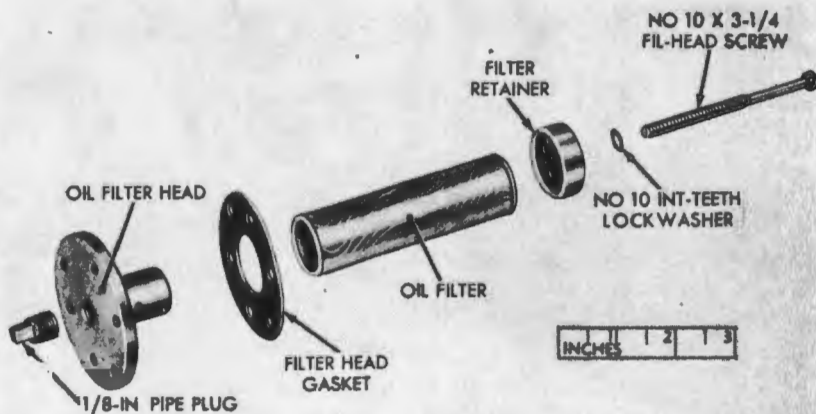

Figure 265. Parts of replenishing oil filter.
- (3) Disassemble the replenishing oil filter for cleaning. Remove the pipe plug (fig. 265) from the oil filter head. Remove the fillister-head screw and internal-teeth lockwasher securing filter parts together. Separate filter retainer, oil filter, and filter head.
- (4) Clean all parts of filter thoroughly with dry-cleaning solvent or mineral spirits paint thinner and allow to dry before assembling.
- (5) Position oil filter (fig. 265) and filter retainer on oil filter head. Install the No. 10 internal-teeth lockwasher on the No. 10 x 3/4 fillister-head screw. Insert screw through retainer and filter and secure to oil filter head. Install 1/8-inch pipe plug in oil filter head.